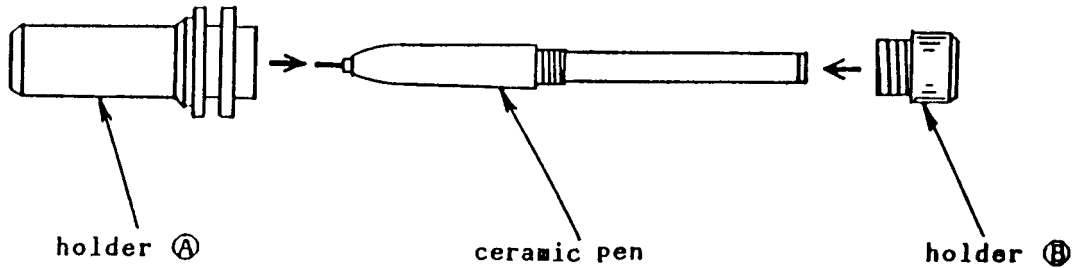

Fig. 4-2 Ceramic Pen Setting
Pen holder consists of two pieces (holders ① and ②). Referring to Fig. 4-2, insert both ends of the ceramic pen into holders ① and ②. Then screw the holder ② into the holder ①. Set the ceramic pen with pen holder in the same manner as the fiber-tip pen. After drawing, put the ceramic pen in the pen storage with pen holder, but if it will be left unused for a long time, then put on the cap after taking off the pen holder.